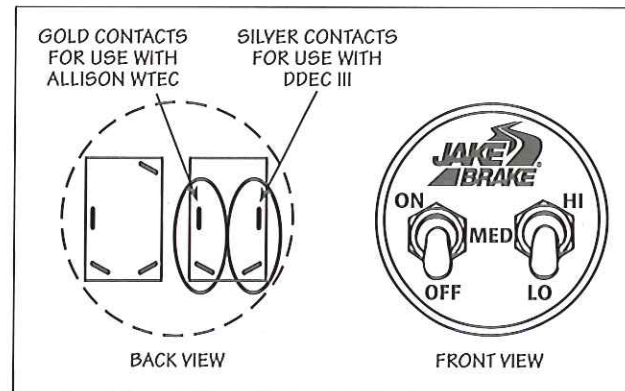

FIG. 33
2. If the engine brake request requires a positive signal, connect the engine brake request wires to the gold contacts on the on/off portion of the switch group, P/N 020035, to a positive switched voltage source (+VDC) as shown in Fig. 33.